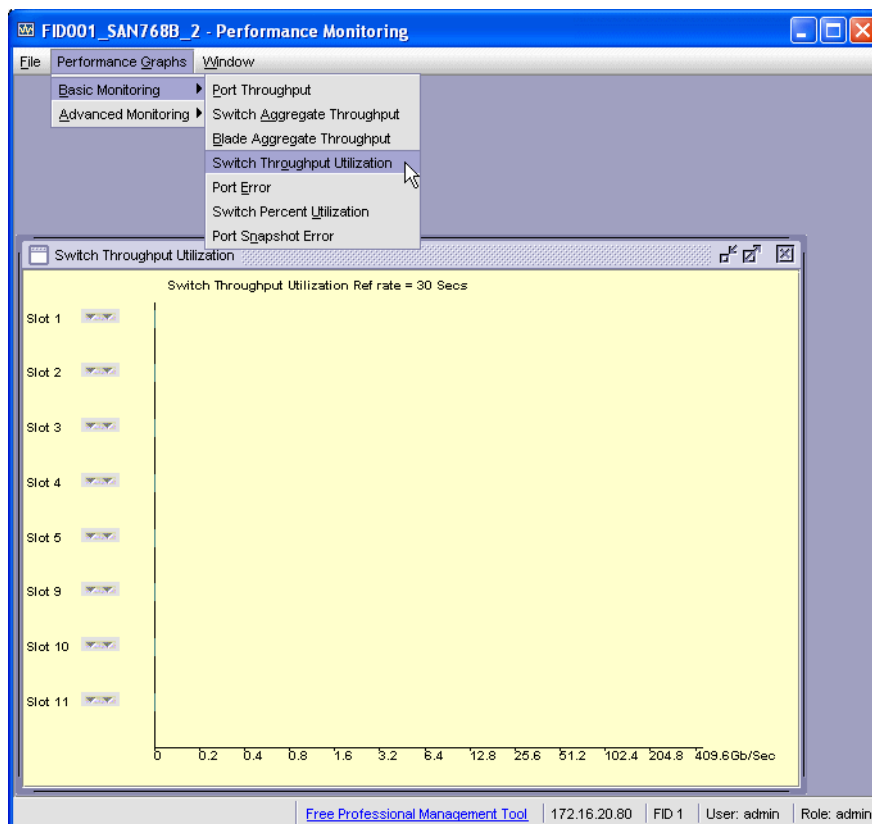

Figure 9-19 Web Tools Performance Monitor
2. Select **Monitor** → **Performance Monitor** from the Web Tools menu bar, or click **Performance Monitor** in the Tasks list in the left part of the window. The Performance Monitor window opens (Figure 9-19).